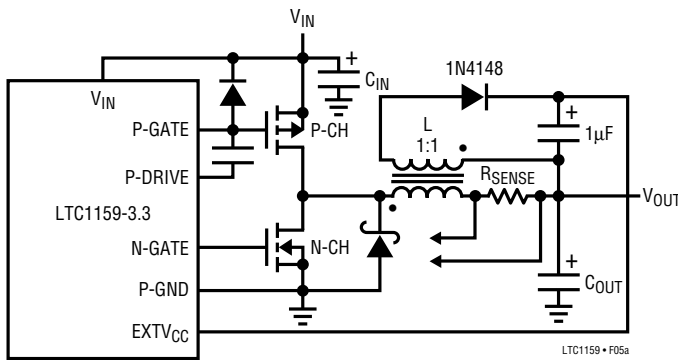
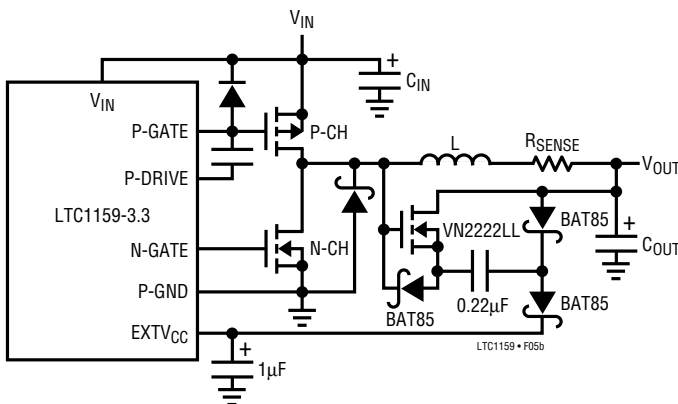

Figure 5a. Inductive Boost Circuit for EXTV_{CC}
Figure 5b. Capacitive Charge Pump for EXTV_{CC}
- EXTV_{CC} Connected to an Output-Derived Boost Network. For 3.3V and other low voltage regulators, efficiency gains can still be realized by connecting EXTV_{CC} to an output-derived voltage which has been boosted to greater than 4.5V. This can be done either with the inductive boost winding shown in Figure 5a or the capacitive charge pump shown in Figure 5b. The charge pump has the advantage of simple magnetics and generally provides the highest efficiency at the expense of a slightly higher parts count.